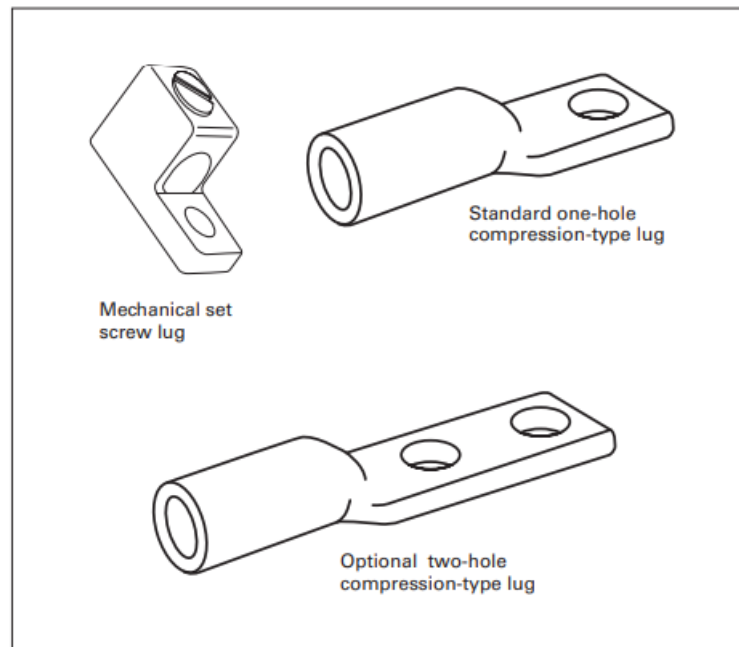

Figure 15. Screw and compression lugs
- When cable connections are used, either mechanical set screw or compression lugs are typically supplied. (See Figure 15.) See factory drawing for specific lug terminations and wire ranges. Some utilities make their own service entrance connections. In these cases, the manufacturer typically supplies lug landing provisions or a landing pad in lieu of lugs. These are designed to the specific utility's requirements. Refer to the manufacturer's drawings for specifics covering this connection.